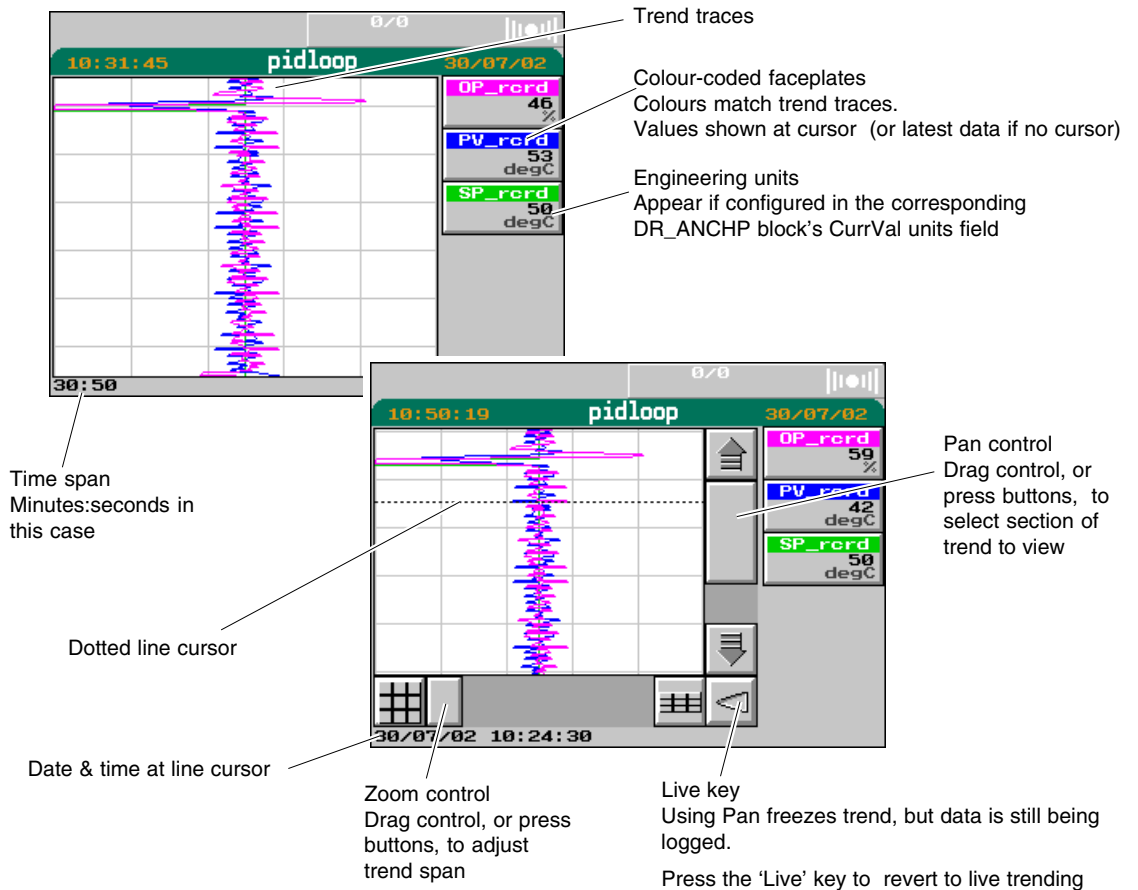

Figure 2-4 Vertical trend with faceplates
- 1 Access the vertical trend (press the **Down** key as needed). Note that latest data is at the top, and the display span in **mins:secs**, **hrs:mins**, or **days-hrs** is shown at the bottom-left of the trend. See Figure 2-4, top left.
- 3 Press the **Option** key to pop up the available options, then press the **VIEW** option. **Zoom** and **Pan** controls appear below and to the side of the trend, respectively (Figure 2-4).